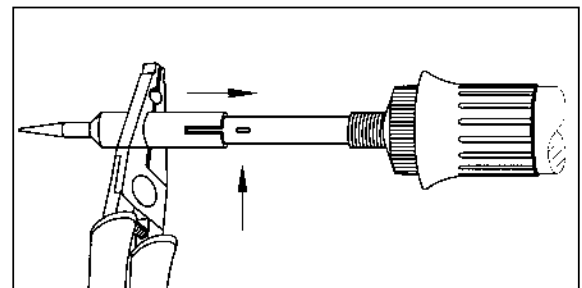

Figure 8
- Attach new tip; when sliding on the tip make sure that the knob of the heating element lies in the slot of the tip (fig. 8). This positions the tip and prevents turning.